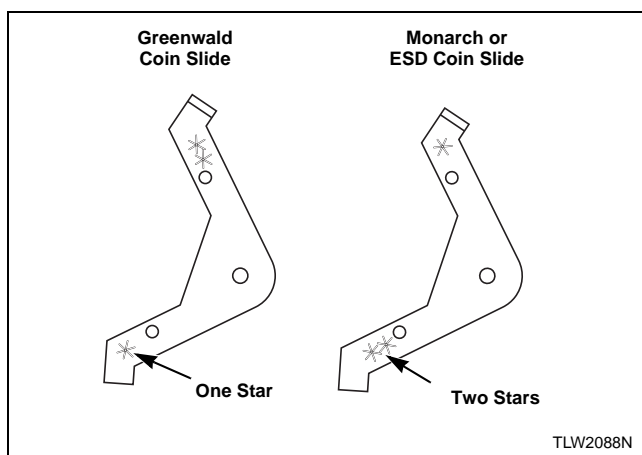

Figure 30
2. If installing a Greenwald coin slide, position extension lever (to be installed on extension bracket) with arm that has one star facing down. Refer to *Figure 30*.
3. If installing a Monarch or ESD coin slide, position lever with arm that has two stars facing down. Refer to *Figure 30*.